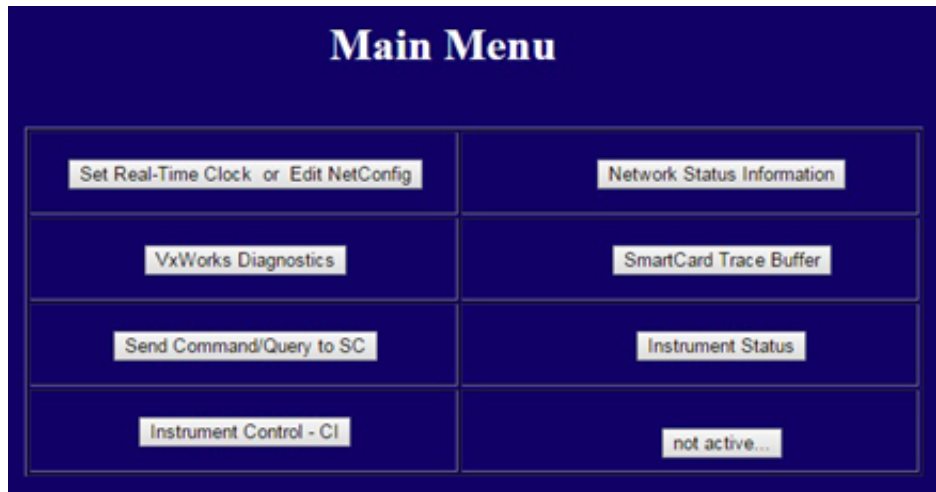

Figure 21 WUI main menu
- 4** Enter the IP address into a PC web browser URL to display the WUI page. (See Figure 21 on page 86.)